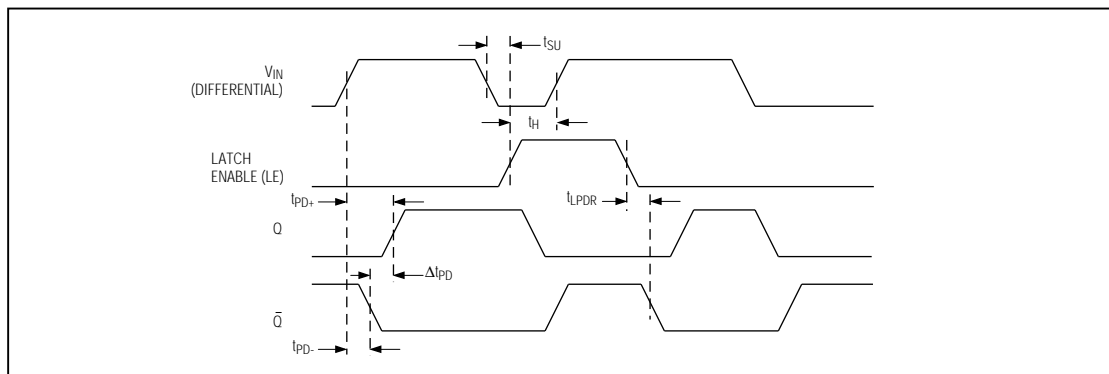

Figure 1. Timing Diagram
The MAX912/MAX913 provide a TTL-compatible latch function that holds the comparator output state (Figure 1). As long as Latch Enable (LE) is high or floating, the input signal has no effect on the output state. With LE low, the outputs are controlled by the input differential voltage and the latch is transparent.
The maximum clock and signal rate is 70MHz, based on the comparator's rise and fall time with a 5mV overdrive at +25°C (Figure 1). With a 20mV overdrive, the maximum propagation delay is 12ns and the clock and signal rate is 85MHz.